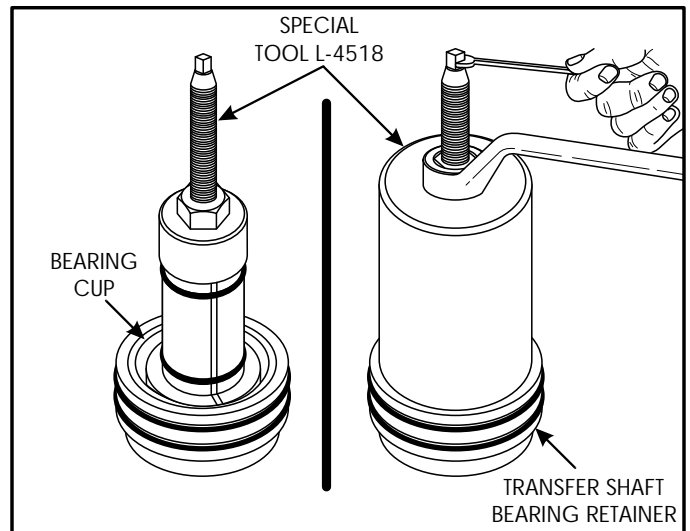

Figure 189
4. Remove the bearing cup from the transfer shaft retainer using the special tool L-4518, shown in Figure 189.